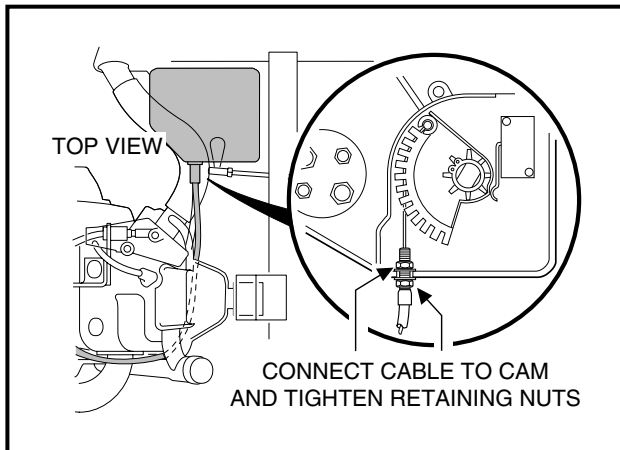

FIGURE 10-100
22. Connect the accelerator cable to the actuator cam in the electrical box. Then position the accelerator cable in the mounting slot in the wall of the electrical box and tighten the mounting nuts using a 10 mm wrench (**Figure 10-100, Page 70**). Install the electrical box cover and tighten the mounting screw.